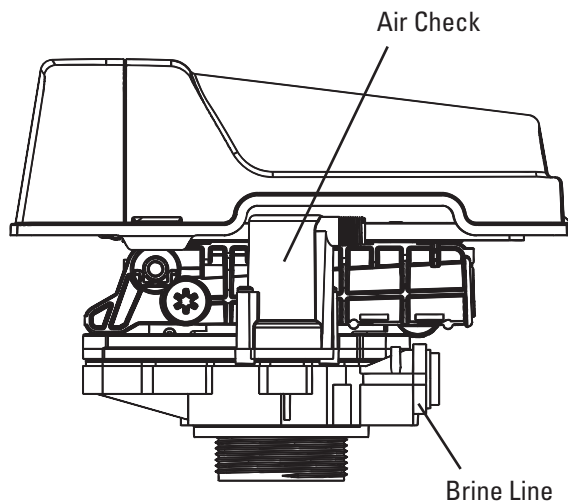

Figure 10 - Control Valve
- B. Carefully advance indicator knob **COUNTERCLOCKWISE** to center of **FAST RINSE/REFILL** position and hold there until air check (Figure 10) fills with water and water starts to flow through brine line into brine tank. Do not run for more than two minutes.